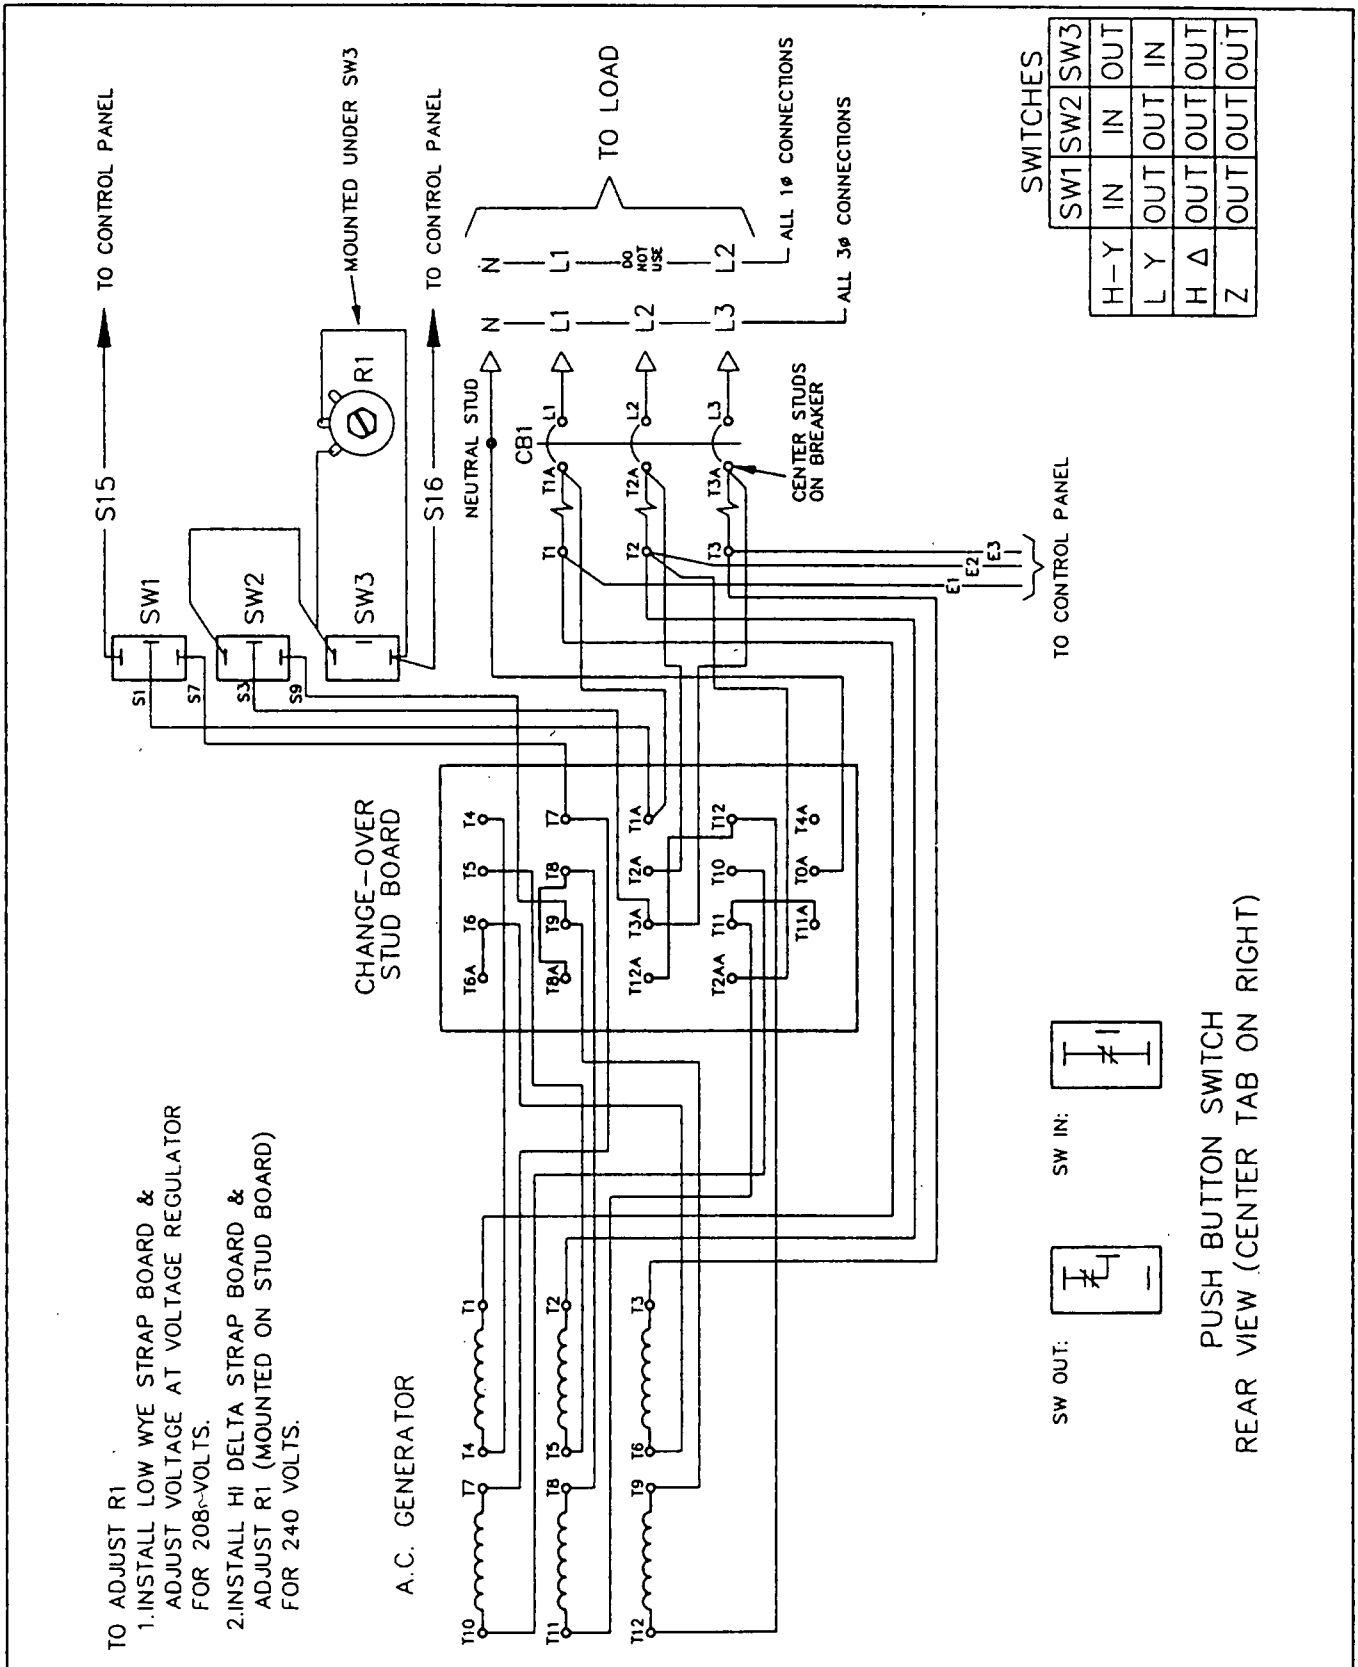

Figure 8. Schematic- Voltage Changeover Stud and Strapping Boards
- The stud board potentiometer (R1) must be adjusted as stated in Figure 8. The potentiometer is mounted under switch SW3 on the stud board.